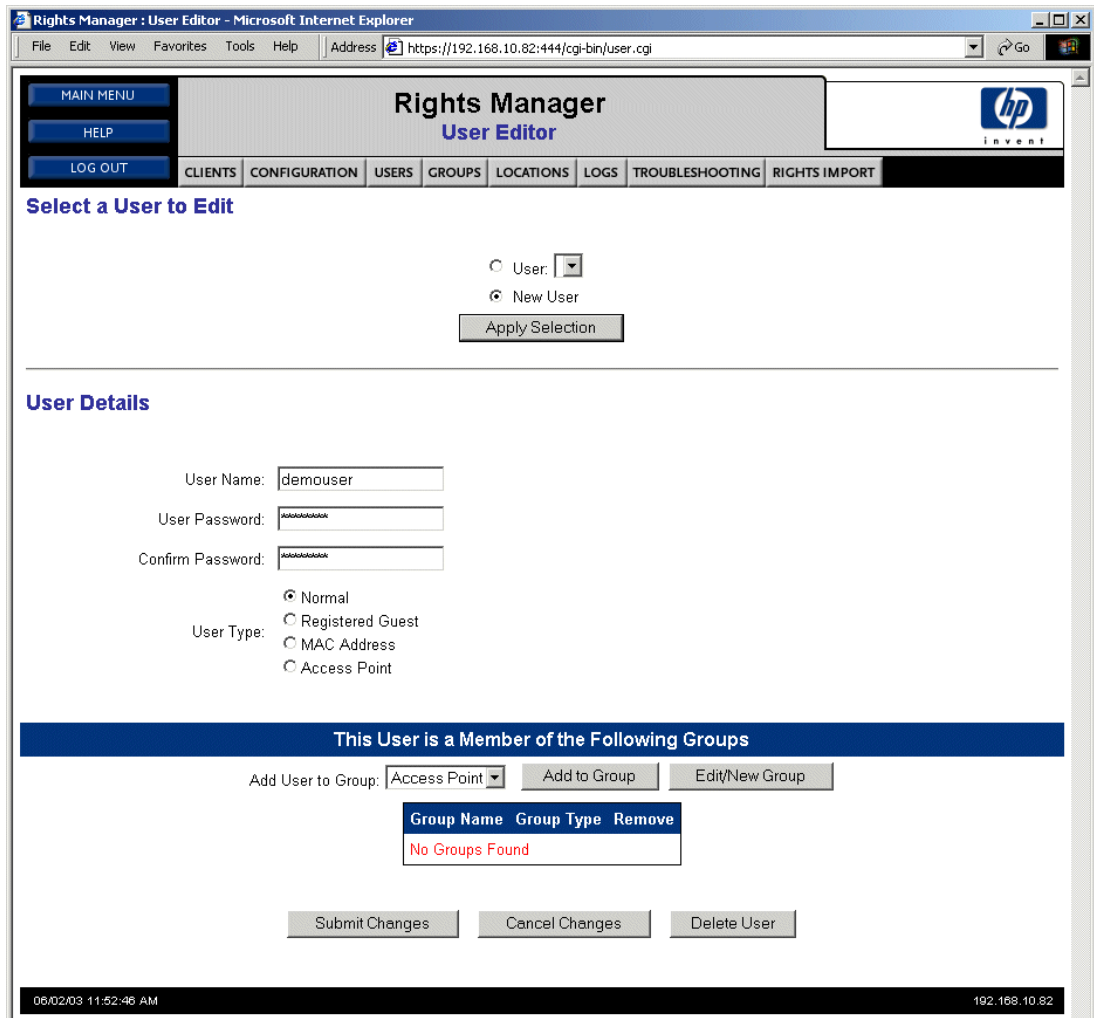

Figure 2-6. User Editor page
Step 4. Click the **Go To the User Editor** link (see Figure 2-6).